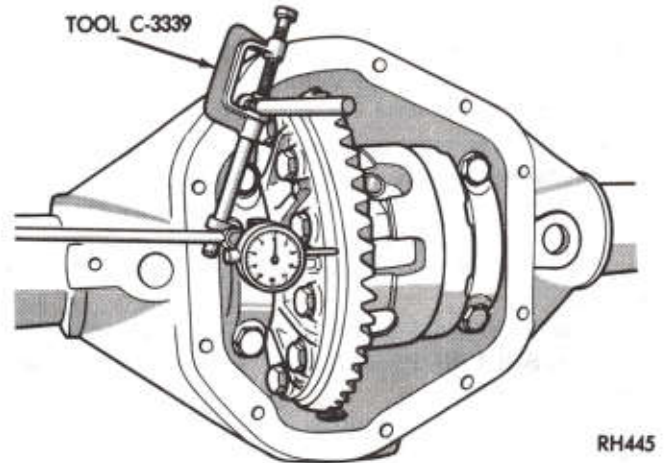

Fig. 3—Measuring Drive Gear Runout
(1) Thoroughly clean the outer area of carrier and tubes with a suitable cleaning solvent and blow dry with compressed air.
(2) Loosen and remove cover screws, and remove carrier cover, drain lubricant into a container.
(3) Using a suitable cleaning solvent, wash and clean differential, bearings, gear ring and pinion and internal surfaces and blow dry with compressed air.
(4) In preparing to measure drive gear back face runout (provided no side play was found) mount a dial indicator Tool C-3339 on pilot stud (Fig. 3), and load the indicator stem slightly when plunger is at right angles to back face of drive gear.
(5) Measure drive gear back face runout by rotating drive gear several complete revolutions and reading dial indicator. Mark drive gear and differential case